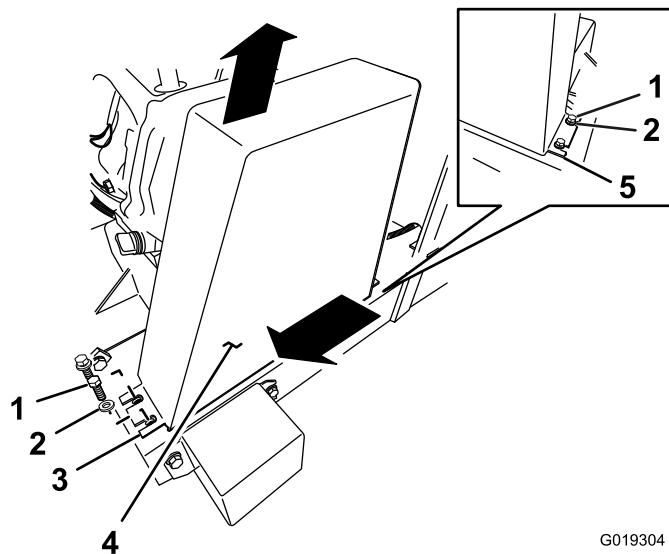

Figure 48
4. Loosen the bolts that secure the rear mounting point of the belt guard to the base of the machine (Figure 48).
5. Remove the forward bolts that secure the forward mounting point of the belt guard to base (Figure 48).
6. Slide the belt guard forward and lift the guard to remove it (Figure 48).